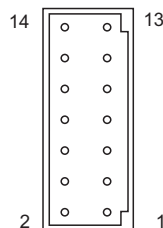

Fig. 3-5:
The external control connector, used for analog programming of the power supply, is located on the rear panel of the unit, (Fig. 4-2, item 4). The pin assignment is shown in Fig. 3-5 below.